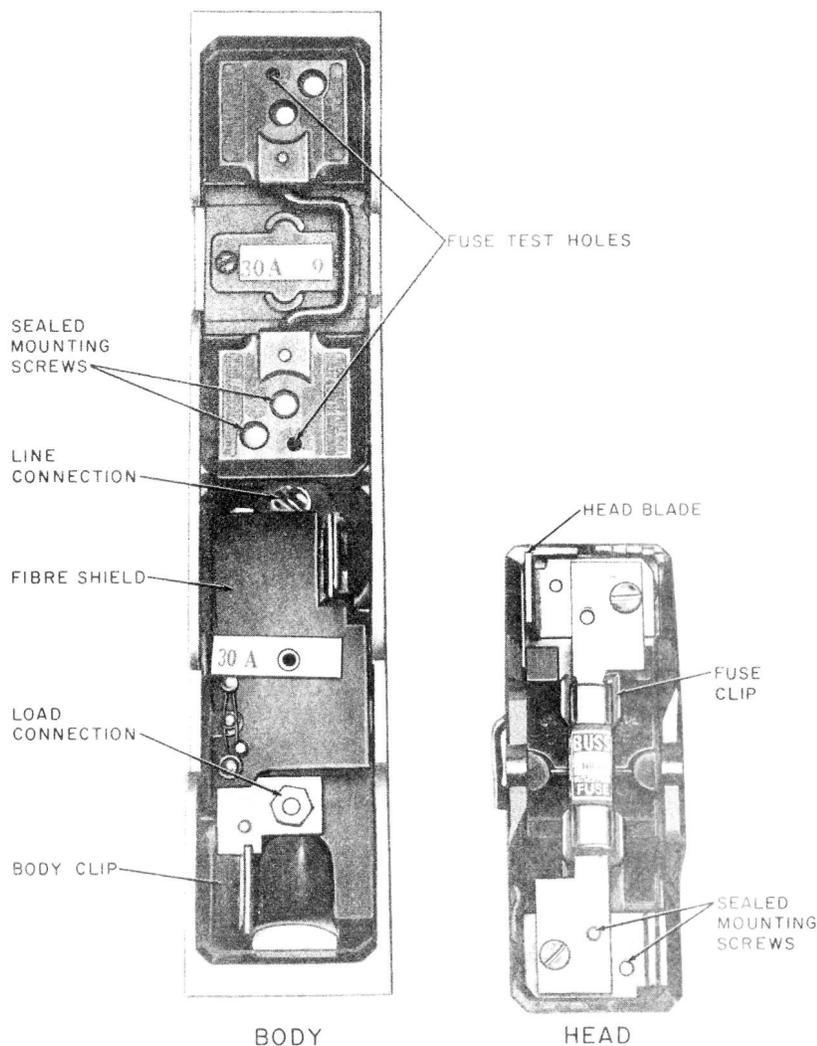

Fig. 1—30-Ampere SAFTOFUSE Unit—Assembly Details
(c) The head blades and the body clips of SAFTOFUSE units shown in Fig. 1, or other arrangements where contact area cannot be checked readily, have no contact area requirement, but shall have a reasonably tight fit sufficient to carry the current for the particular installation without excessive heating.
3.08 SAFTOFUSE units are provided with fuse test holes as shown in Fig. 1. This permits testing of the fuse, without removing the head, by connecting the load to the line and inserting the test picks of a KS-14510, L1, volt-ohm-milliammeter through the dead front or head and into the test fuse holes. A full-rated voltage reading indicates the fuse is open. A continuity reading indicates the fuse is good.